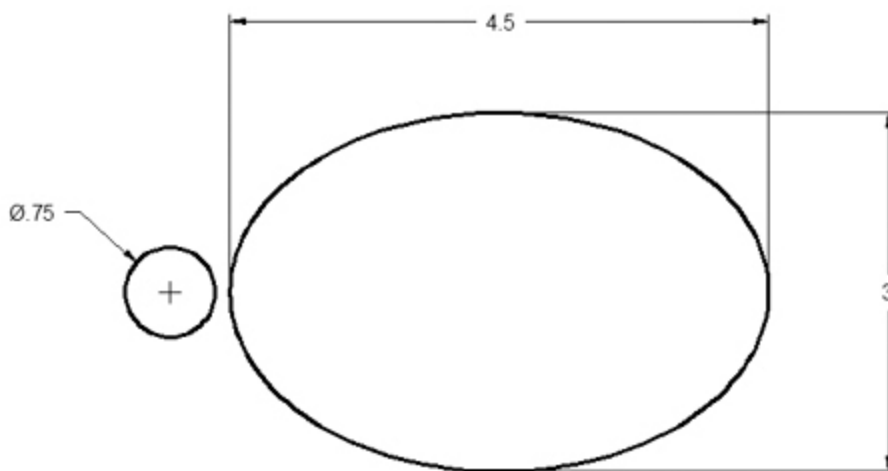

Figure 8-11
- 2** Draw the circle and ellipse shown in Figure 8-11.